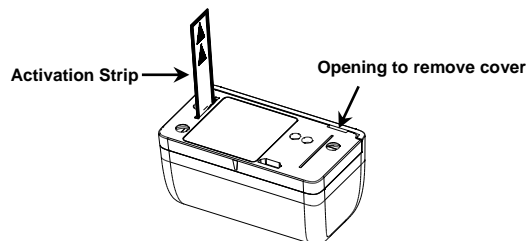

Figure 2 – Activation Strip
2. To activate pairing mode on the sensor, pull the activation strip from the back of the sensor (Figure 2).
- a. Remove the cover by inserting a screw driver in the opening and pulling up. (see Figure 2).